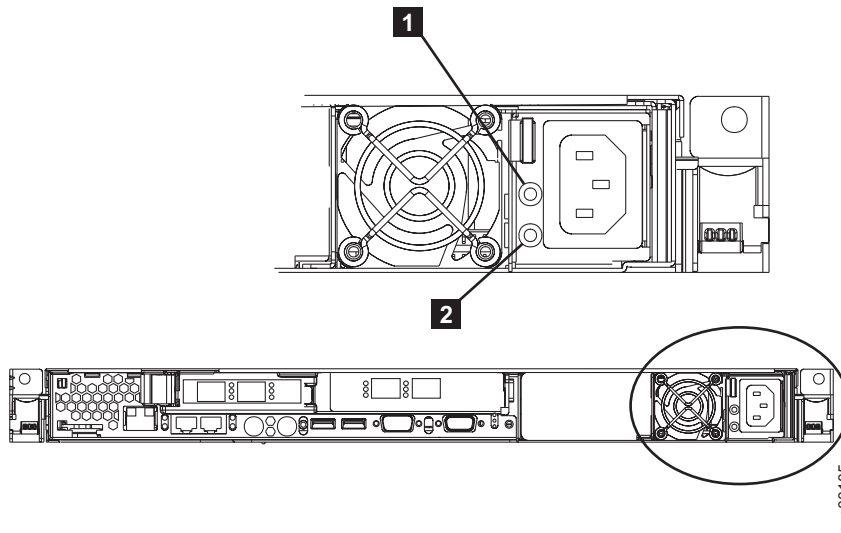

Figure 105. AC and DC power LEDs
5. Make sure that the power-supply fan starts and the AC power LED **1** and DC power LED **2** on the power supply are lit, indicating that the power supply is operating correctly. See Figure 105 on page 322.